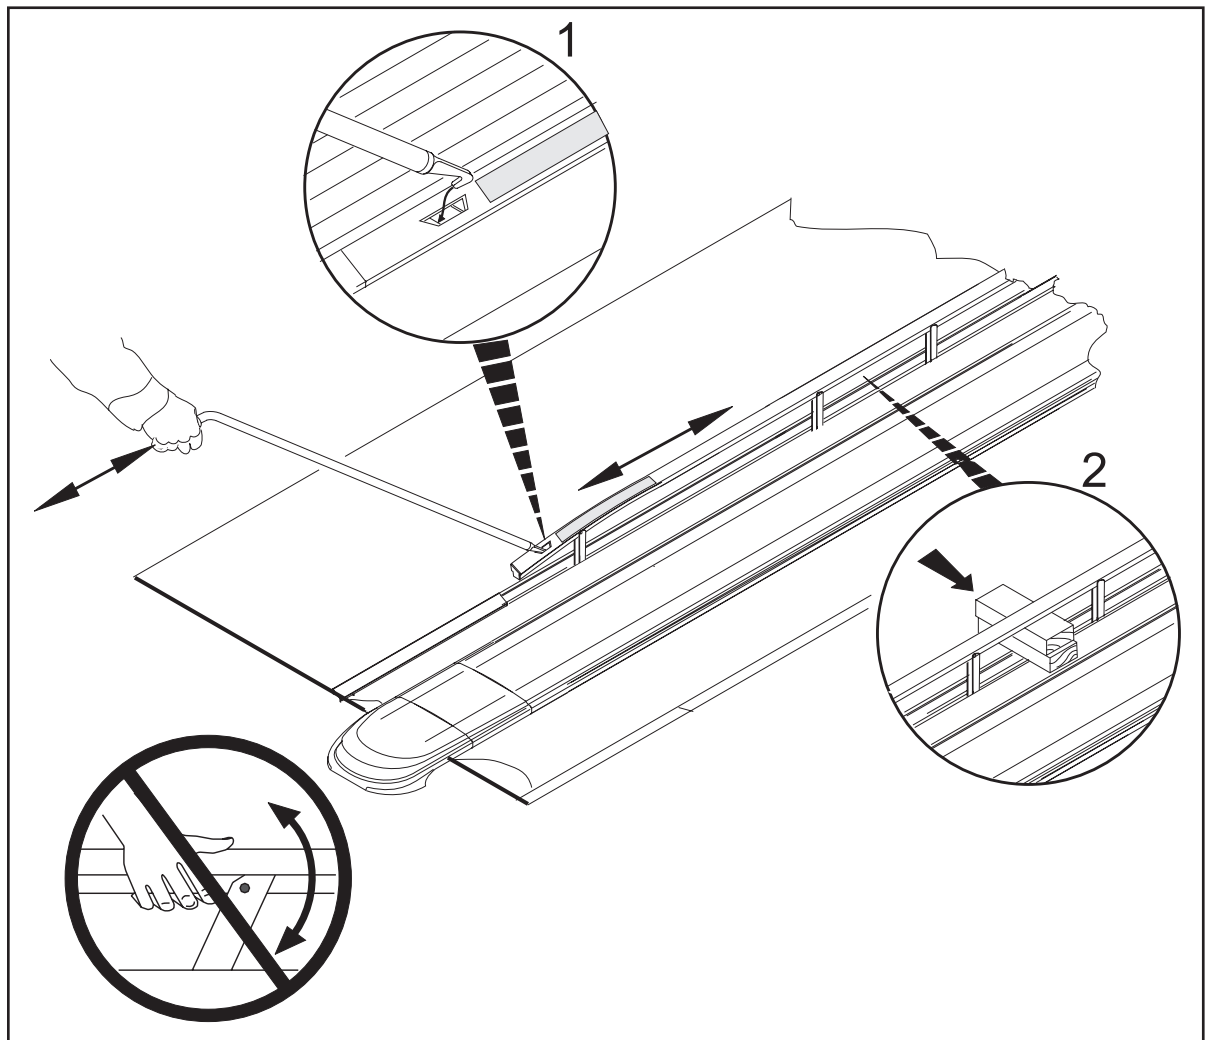

Figure 2. Raising/Lowering the Bumpers
4. Never use your hands or feet to manually raise or lower the bumper rails. Use an appropriate tool such as the Brunswick bumper deployment tool (Brunswick part number 84-8601000-000) when manually lifting (or lowering) the bumpers. Refer to *Figure 2*.
The Pinball Wizard automatic bumpers are not intended for manual operation. **Never** raise or lower the bumpers by pushing or pulling the rails as injury to or loss of fingers or toes can occur. To raise or lower the bumper manually disconnect power to the Automated Bumper Controller and then use an appropriate tool such as the Brunswick bumper deployment tool (84-860100-000). Refer to *Figure 2*.
3. Your hands, fingers, or feet must never come into direct contact with the bumper rails to raise or lower them. Refer to *Figure 2*.
4. Use an appropriate tool such as the Brunswick bumper deployment tool (Brunswick part number 84-8601000-000) when manually lifting or lowering the bumpers. Refer to *Figure 2*.
**Communication Out (J4)** - This connection allows the communication entering the PCB at J3 to continue out of the PCB. Refer to *Figures 2 - 4*. When the communication signal is not needed by additional devices (J4 not used), a jumper (terminator) must be installed on pins 2 and 3 of JP1. Refer to *Figure 7*.